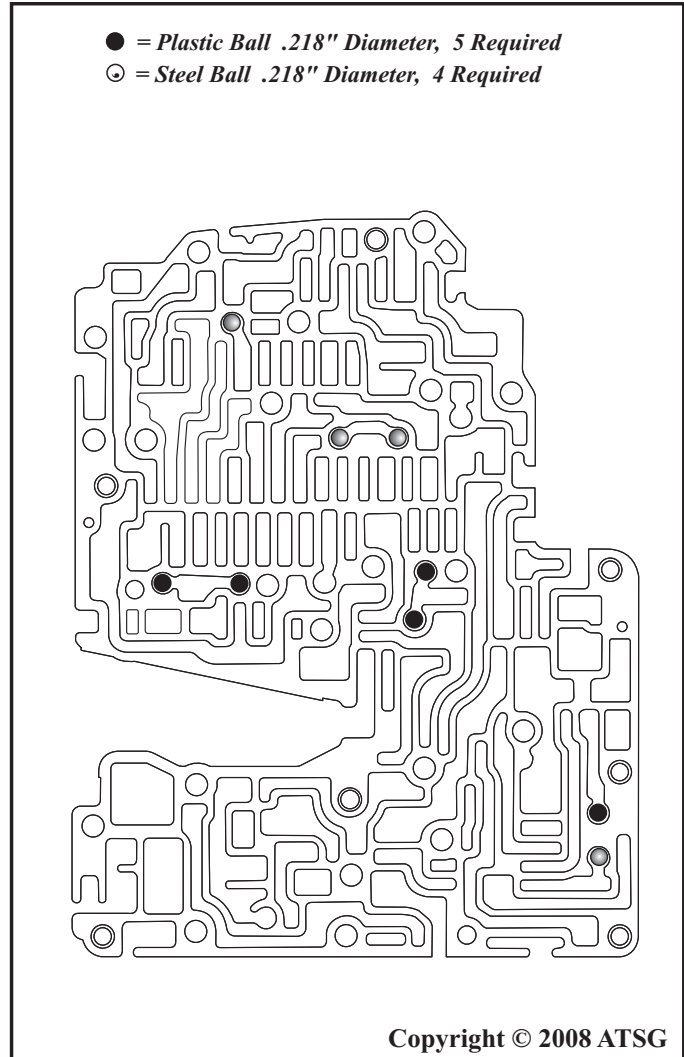

Figure 101
30. Install the four steel check balls in their proper positions, as shown in Figure 101.
31. Install the five plastic check balls in their proper positions, as shown in Figure 101.